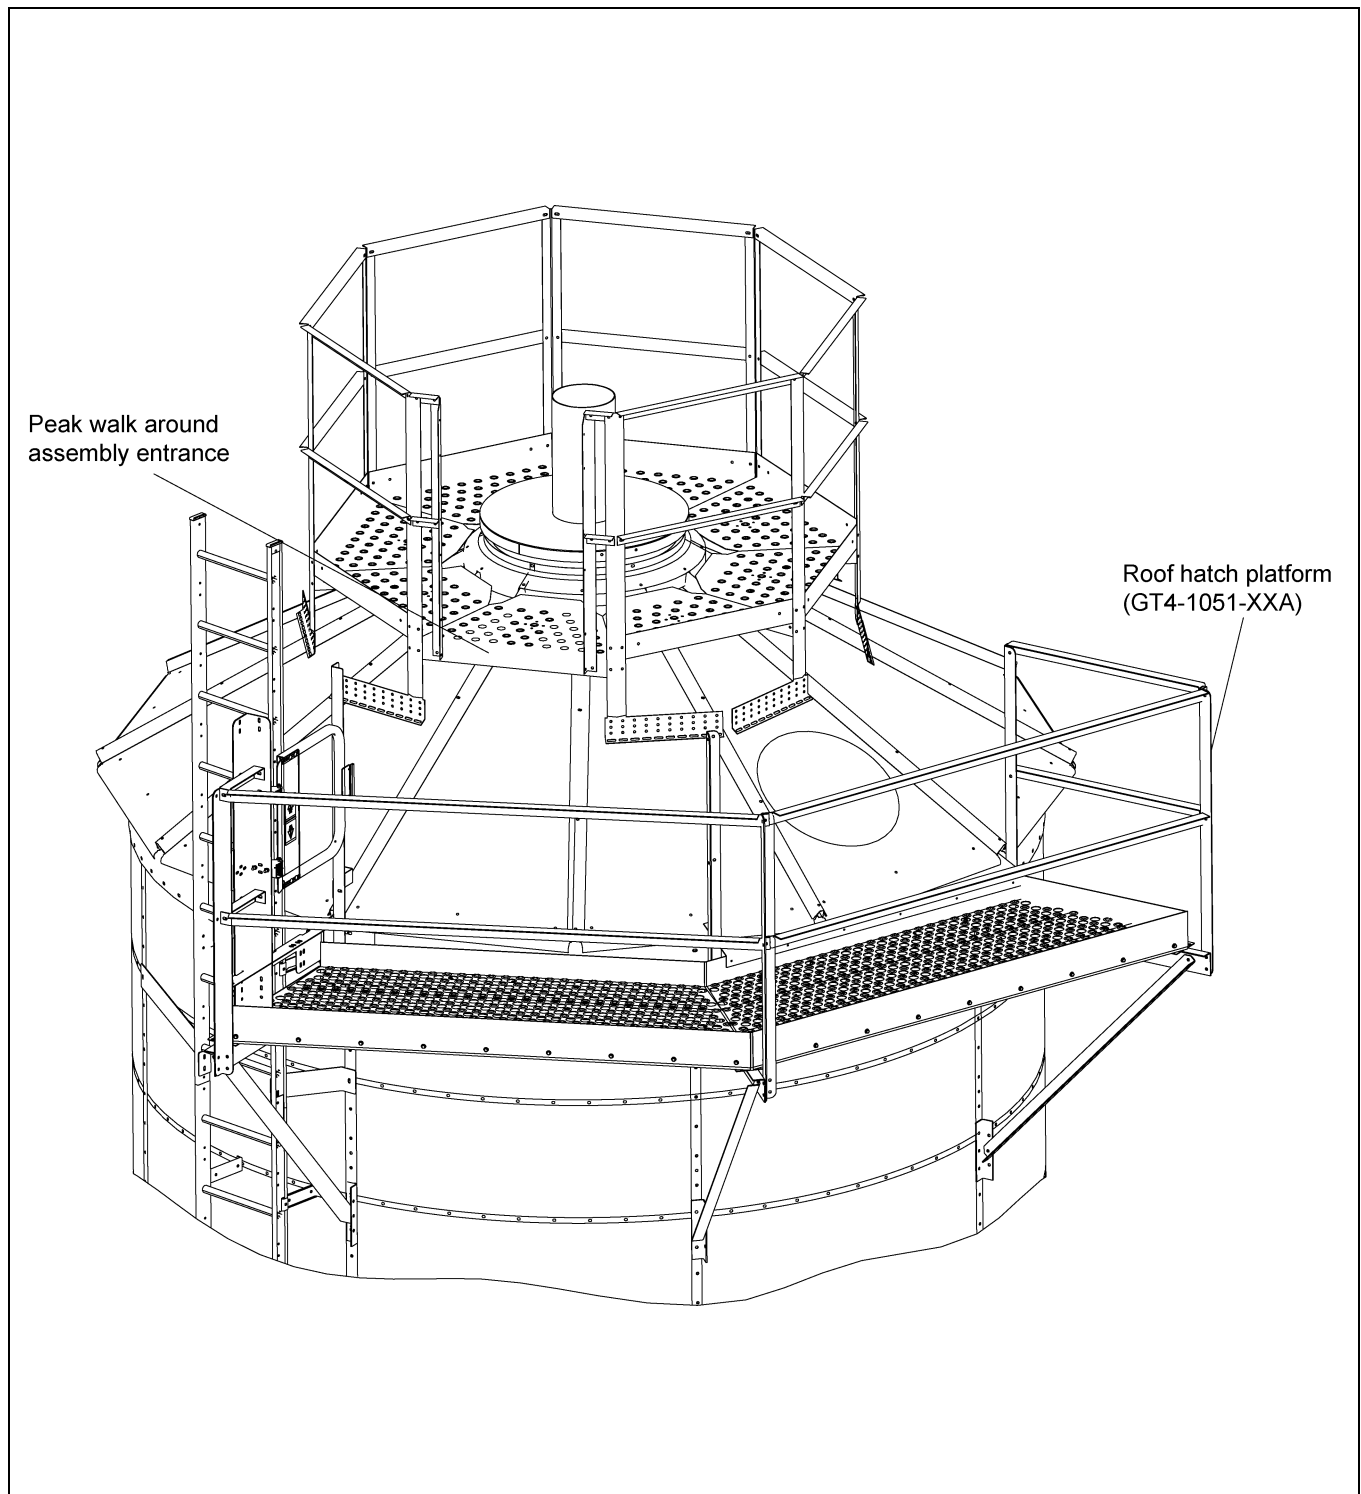
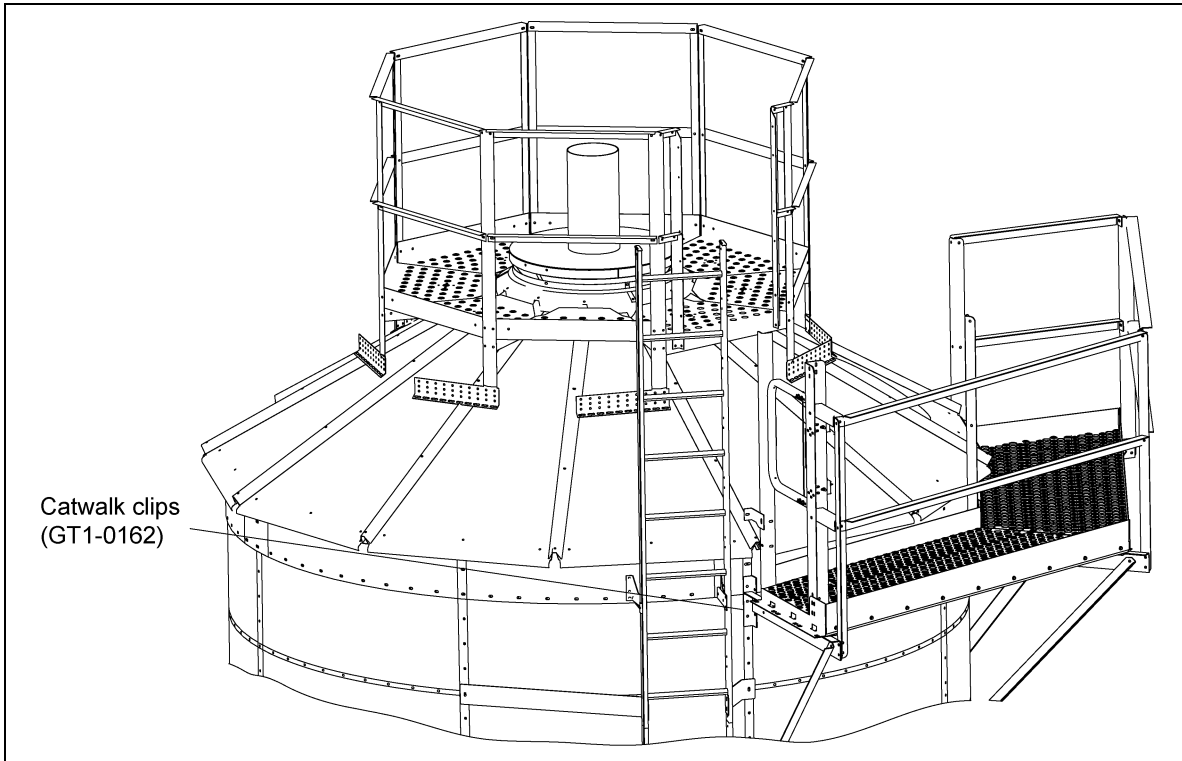

Figure 1B
Figure 1C
1. Assemble the roof hatch platform (GT4-1051-XXA), as shown in Figure 1B, in such a way that one section of the roof hatch platform will be aligned with the peak walk around entrance and the other section will be aligned with the manhole cover section of the roof. Make sure the catwalk upper clips (GT1-0162) are assembled on the fourth hole from the top on the vertical channel, as shown in Figures 1C and 1D on Page 6.